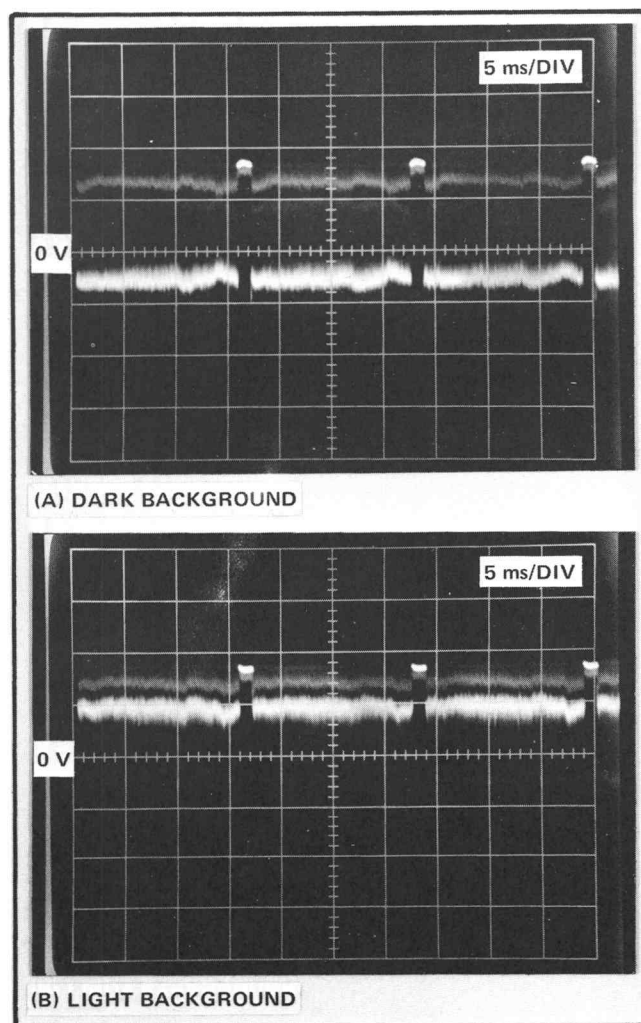

Fig. 5-27. Waveforms at TP765 with Vertical Shading adjustments properly set.
b. Video should appear as in Fig. 5-27. Adjustments R871 (Vertical Shading Amplitude) and R860 (Vertical